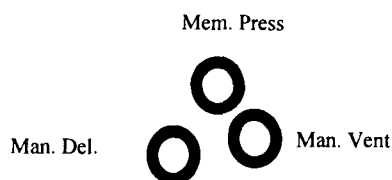

Figure 2-2 Upper Manifold Port Connections – Side A (Reaction Vessels 1-5)
The three female bulk head fittings for these tube connections are located near the manual valves towards the edge of the front face of the Upper Reactor Unit. The tubes will lead from these upper bulkhead fittings to a set of three female fittings located on the Upper Manifold. These latter fittings form a canted triangle configuration (see Figures 2-2 and 2-3).
2. Screw the other end of the MEM PRESSURE tube into the female threaded port on the Upper Manifold located at the top of the triangle of ports (see Figures 2-2 and 2-3).
4. Screw the other end of the MAN VENT tube into the female threaded port on the Upper Manifold in the middle of the triangle of ports (see Figures 2-2 and 2-3).
6. Screw the other end of the MANUAL DELIVERY tube into the female threaded port on the Upper Manifold at the bottom of the triangle of ports (see Figures 2-2 and 2-3).